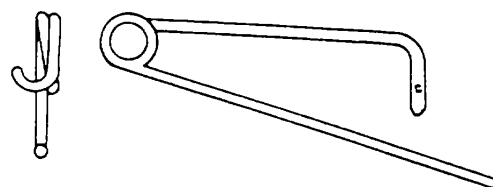

Figure 2-49. Safety Retaining Pins
c. **Safety Retaining Pins.** Use safety retaining pins, AN416, as shown in figure 2-49, to secure items such as clevis pins, MS20392, small chains, checklists, and other similar items.